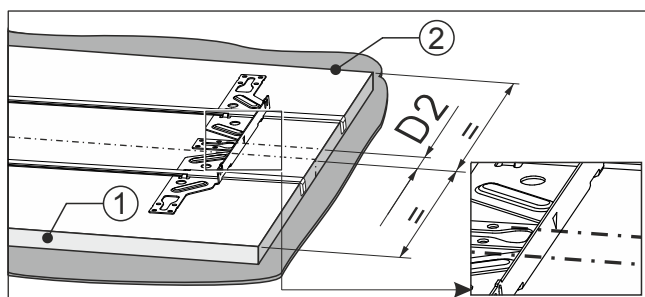

Fig. 94
- ▶ The marking on the mounting crossbar aligns with the marking Fig. 94 (D2).